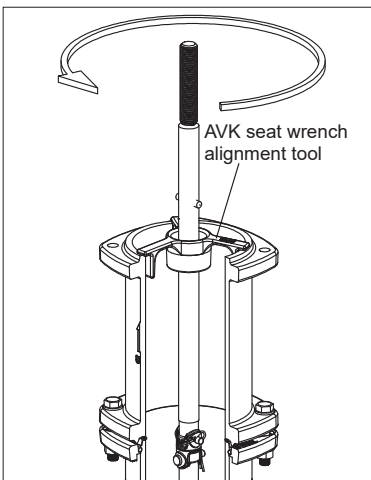

Fig. 7G
7. To remove the valve seat ring (F51) and main valve assembly, slide the AVK seat wrench (fig. 7G) over the upper stem rod (F16) and engage the seat removal pin. Turn the tool counterclockwise (approximately 6 turns), until the valve seat ring has disengaged from the drain ring.
**NOTE:** For deeper buries, an optional AVK seat wrench alignment tool is available (see fig. 7G).